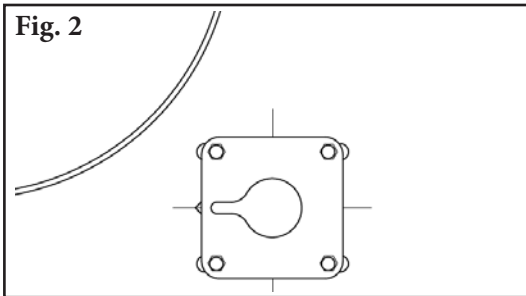

Fig. 2
3. **Install the mounting plates.** Bolt flat mounting plate (with keyhole) to the side opposite where the tensioner will be mounted. Keyhole should face the pulley (Fig. 2). Install torsion mounting plate (with circular weldment) to the tensioner side. Center plates on the slotted holes and tighten bolts.